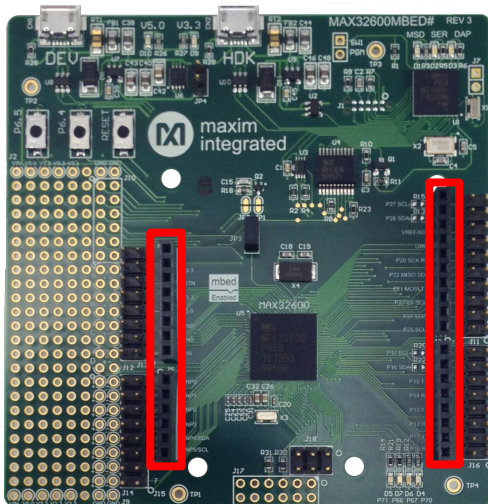

Figure 11. Inserting pins on the MAXREFDES143# assembly into the MAX32600MBED#.
2. Insert the downward facing pins on the MAXREFDES143# assembly into the MAX32600MBED# as shown (Figure 11).